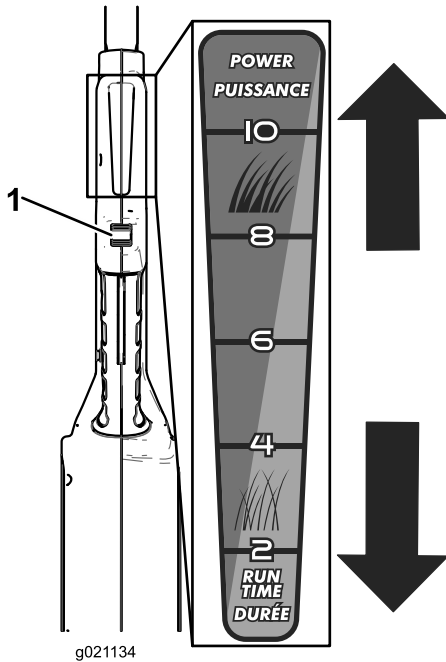

Figure 9
- Slide the thumb wheel away from you to increase the motor speed, and towards you to decrease motor speed (Figure 9).